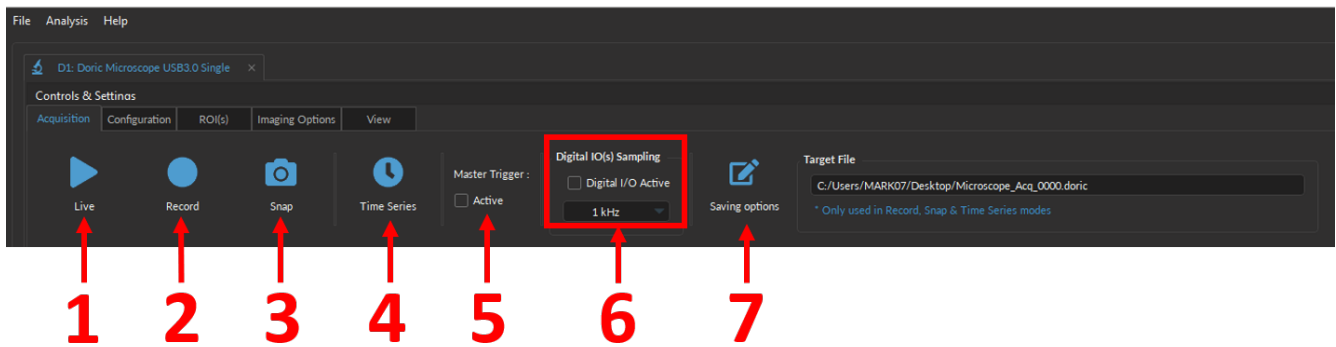
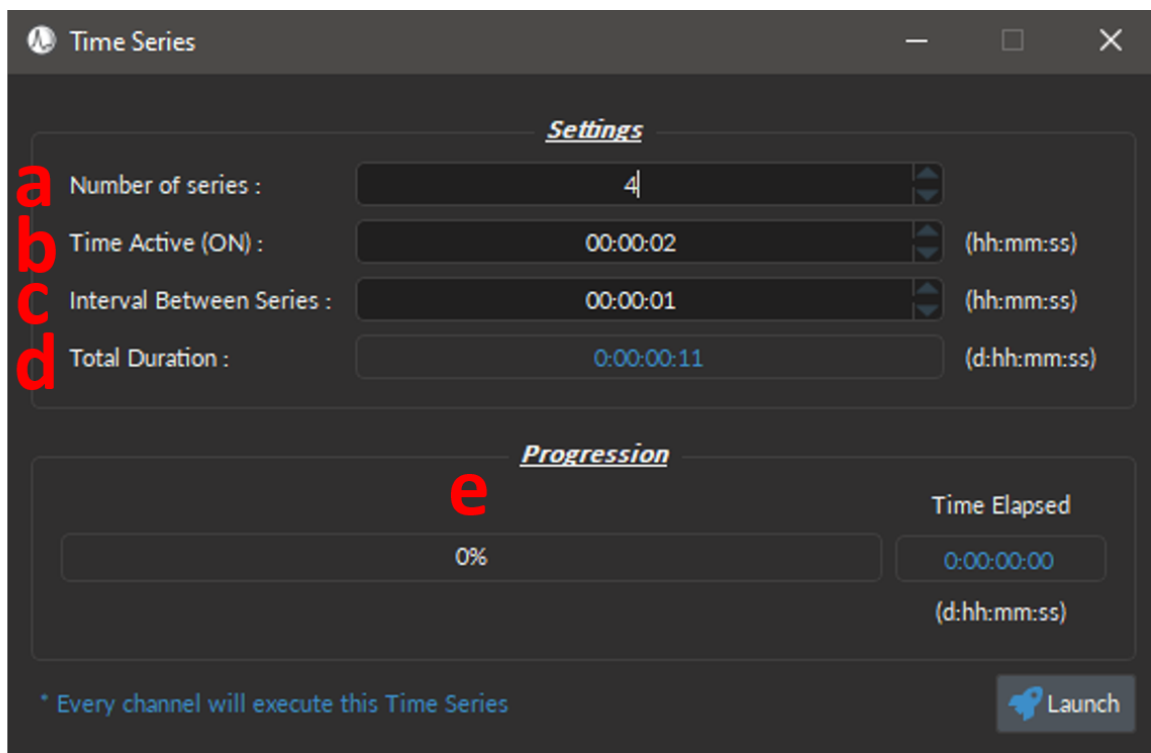

Figure 5.11: Acquisition Tab
Figure 5.12: Time Series Window
The **Acquisition** tab (Fig. 5.11) contains different image-capturing functions of the microscope.
1. The **Live** button (Fig. 5.11), when pressed, displays images from the microscope. These images are not saved.
2. The **Record** button (Fig. 5.11), when pressed, acquires a continuous image stream, until **Stop** is pressed, and saves it in the requested directory with the desired name (**Saving Options**) as one image stack.
3. The **Snap** button (Fig. 5.11), when pressed, takes a snapshot of the current image and saves it in the requested directory with the desired name (**Saving Options**) as a single image.
4. The **Time Series** button (Fig. 5.11), when pressed, opens the time series interface (Fig. 5.12).
- a) The **Number of series** (Fig. 5.12) defines the number of images series will be recorded.
- b) The **Time active (ON)** (Fig. 5.12) defines the time of acquisition on each series.
- c) The **Interval Between Series** (Fig. 5.12), defines the duration between each series. This duration always has a minimum value of 1 second.
e) The **Progression bar** (Fig. 5.12) displays the progress (in %) of the time series.